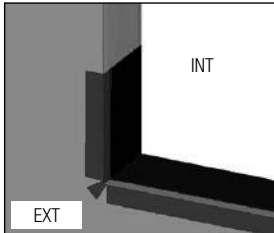

FIG. 6
- F) Flashing tape must cover the entire sill. If needed, apply an additional flashing piece over the first one (start from the exterior and work toward the interior). Maintain a minimum 1" overlap. (Fig. 6)